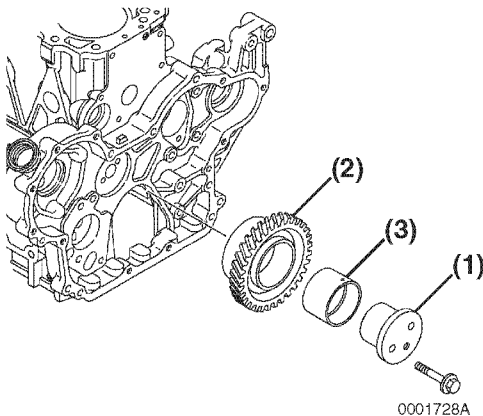

Figure 6-145
3. Lubricate the idler gear (Figure 6-145, (2)), bushing (Figure 6-145, (3)) and idler gear shaft (Figure 6-145, (1)) with clean engine oil.